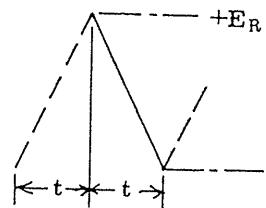

Fig. 4-4
When the constant current that is charging capacitor C is expressed as 1, and the voltage comparator is set at $-E$ and $+E$, and time interval t from $-E$ to $+E$ at the output of integrator is set as shown in Fig. 4-4, the following formula (1) can be obtained
Since oscillation frequency f is $t/2$ as shown in Fig. 4-4, formula (1) is expressed as follows;